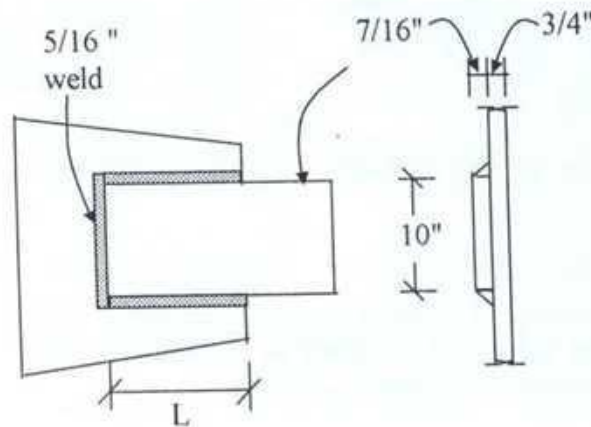

Fig. 1
1. (a) Two plates are lap connected using $5/16$ inch transverse weld at the end deposited by E70XX electrodes (for which ϕ is 0.75 and nominal strength is 0.6 times the tensile strength of weld metal) as shown in Fig. 1. Using the same electrode design additional longitudinal welds at the two sides, so that the lap L may be minimized. The joint is to transmit a dead load of 80 kips and a live load of 160 kips. Use AISC/LRFD method and determine L . Limits on size of welds imposed by specifications are given in Table 1. (10)